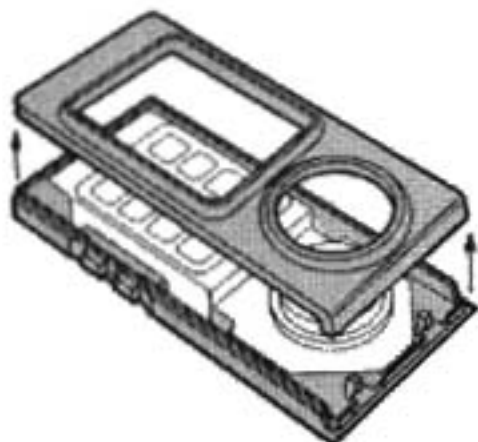

Figure 4-3
1) While holding the top and bottom housings together, turn the Hand Controller right side up. Set it back on a flat surface. (See Figure 4-3.)